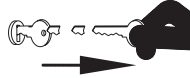

FIG. 4-45
3. Remove the carriage bolts, hex nuts, and lock washers then remove the ridging wing assembly from the tillage shank. (Fig. 4-45)
10. Install the ridging wings onto the assembly with the carriage bolts and flange nuts. (Fig. 4-45)